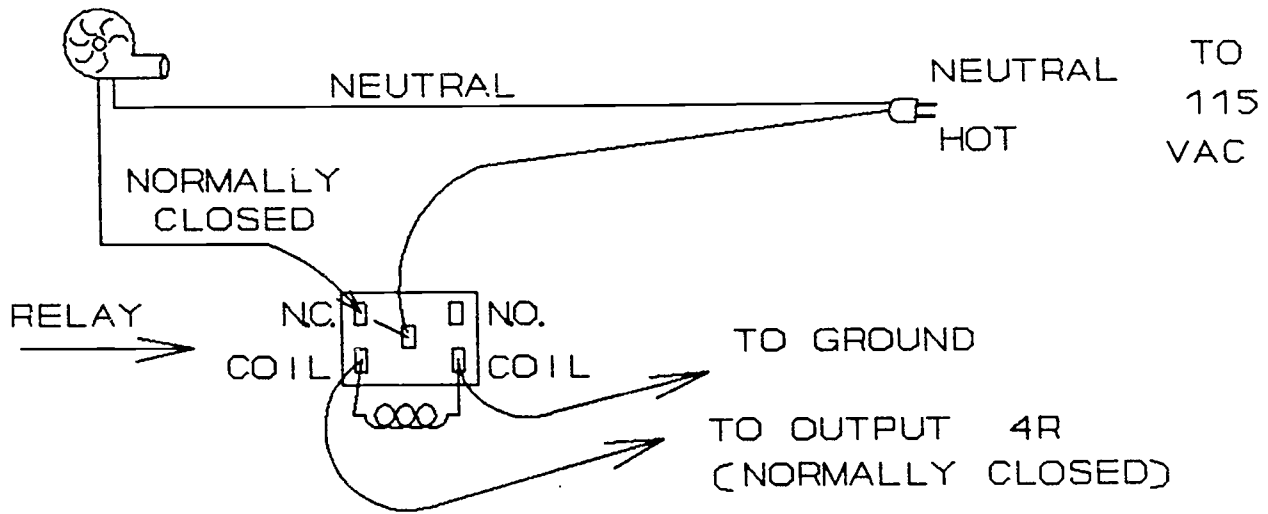

Figure G-12-9
2. Wire the fan as shown in Figure G-12-9 ("Fan/Relay Wiring Diagram").